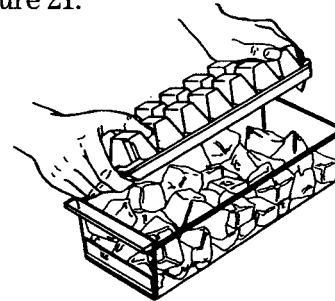

Figure 21.
- Twist in opposite directions until ice pops out. See Figure 21.